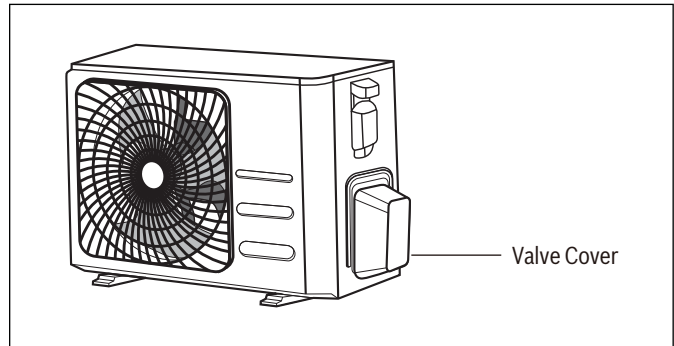

Figure 32
1. Unscrew and remove the cover on the side of the outdoor unit. See Figure 32.